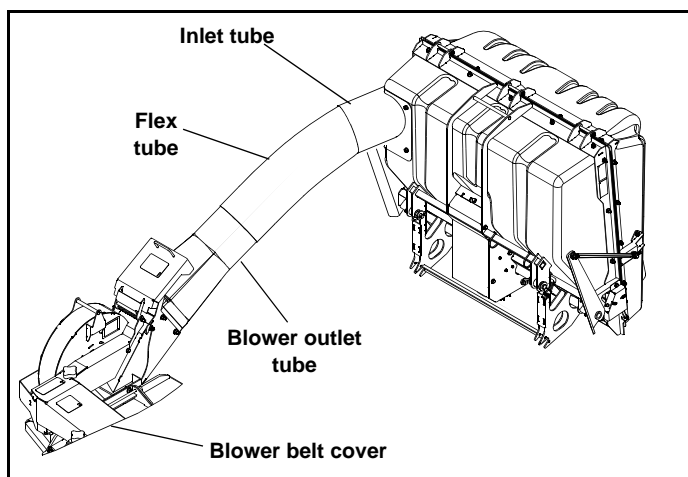

Figure 4-1
2. Remove the flex tube from the BAC-VAC™ inlet tube and blower outlet tube. Figure 4-1
3. Remove the blower outlet tube from the blower assembly. Figure 4-1
4. Remove the blower belt cover from the deck. Figure 4-1
3. Remove the flex tube from the BAC-VAC™ inlet tube. Figure 4-1